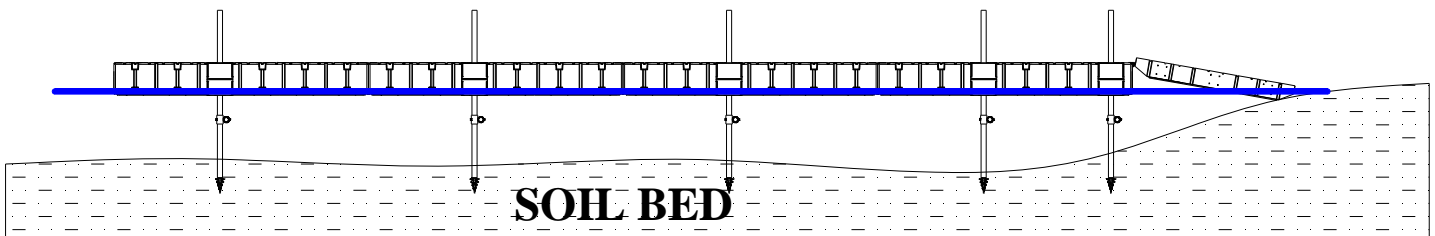
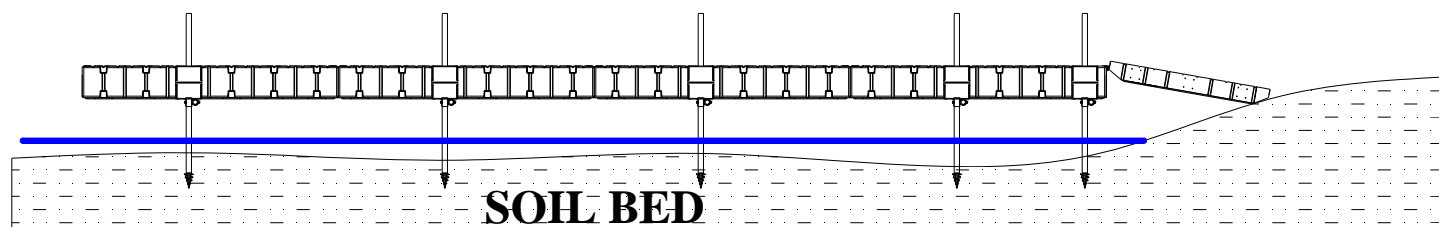

Figure 1a
Figure 1b
- The image below represents a high water view of a suspended dock. (see figure 1a) At high water levels, the dock section is floating, and as the water levels drop, the dock section will rest on the horizontal pipes and clamps (see figure 1b)